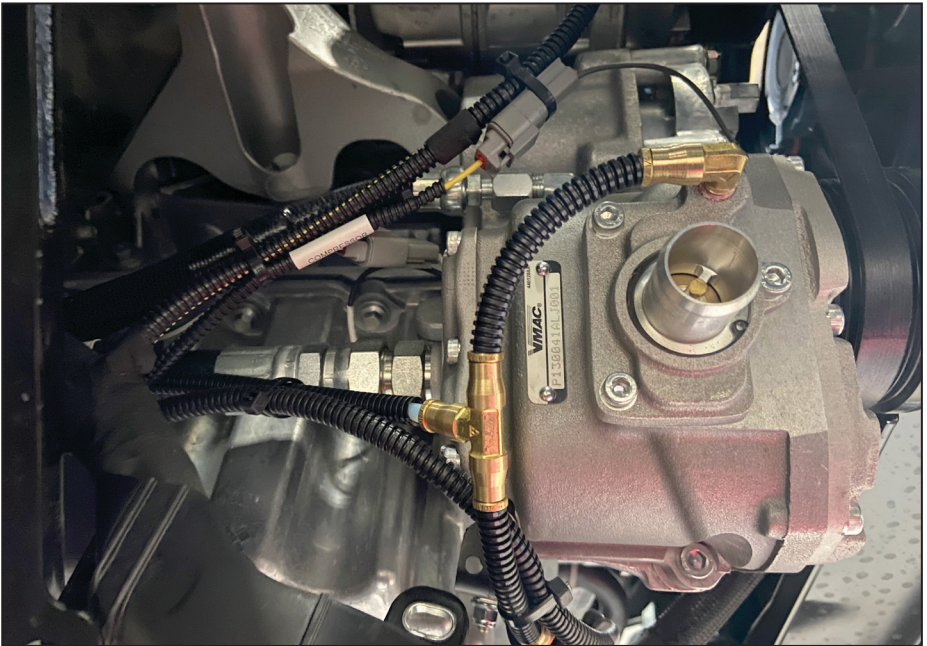

Figure 38 — Install 3/4 in hose
- Connect one end of the 3/4 in hose to the compressor discharge fitting on the rear of the compressor. Direct the hose toward the rear of the vehicle, between the engine and the crossmember (Figure 38).